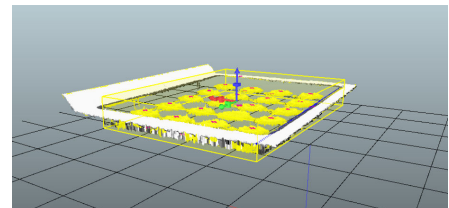

Figure 38: Region of interest for **Blob** tool
8. Move and resize the region of interest for the **Blob** tool to cover only the chocolates. See figure 38.